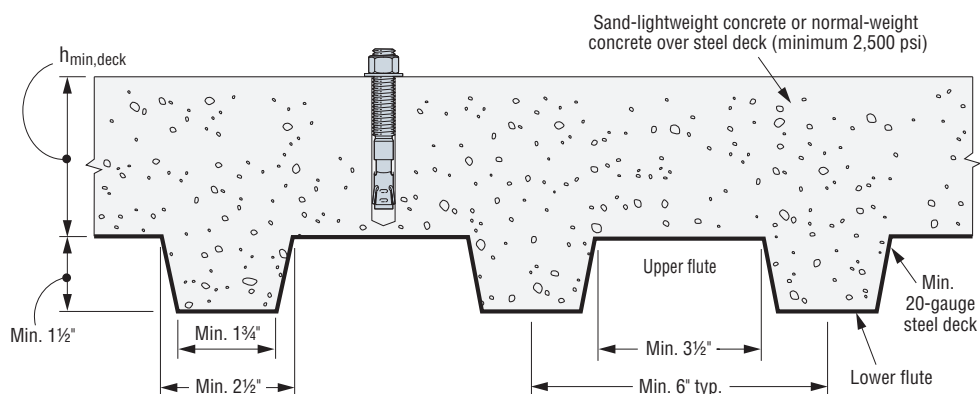

Figure 1
1. Installation must comply with the table on p. 99 and Figure 1 below.